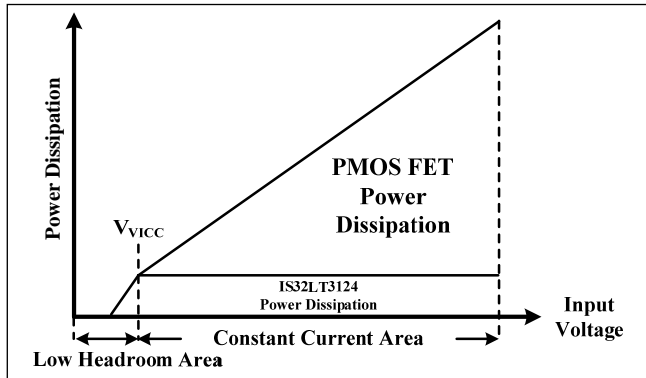

Figure 69 Power Dissipation Distribution in Series Regulator Mode
Choose $1\text{k}\Omega$ value for R_1 and the DHC circuit will operate in Series Regulator mode. The integrated circuit compares the minimum headroom voltage of all four output channels against the headroom setting V_{HRSET} , which is set by the resistor R_{HR} from the HRSET and VICC pins, and dynamically drives the external power PMOS FET to maintain this minimum headroom voltage always equal to V_{HRSET} . As Figure 69 shows, the minimum headroom voltage will appear on the channel with the maximum LED string forward voltage. Therefore, the output voltage of the Series Regulator, V_{VICC} , can be calculated by the Equation (6) and (7):